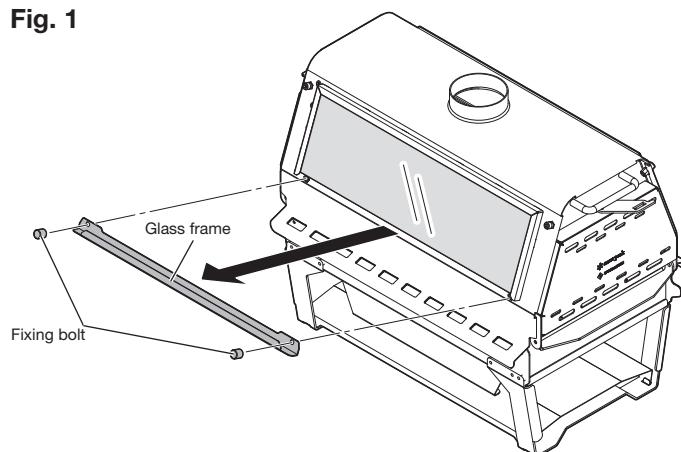

Fig. 2
② Remove the glass fixing rope from the gap inside the stove. (Fig. 2)